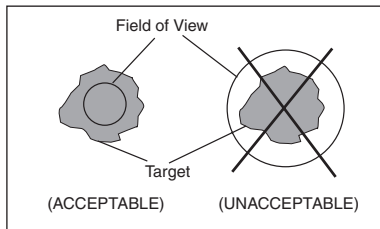
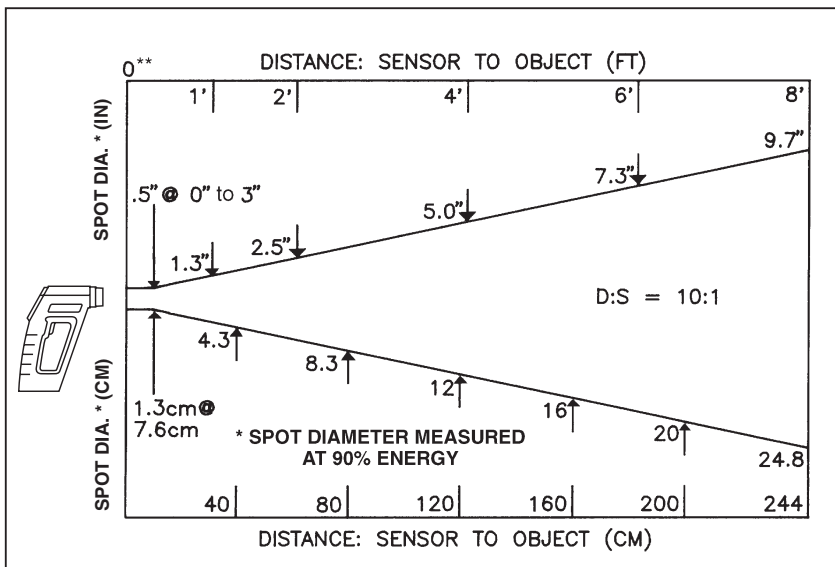

Figure 2-3. Field of View Positions
Figure 2-4. Field of View OS531, OS532, OS530L
2. The field of view of the thermometer should fall within the area of the target being measured. See Figure 2-3. Figures 2-4 through 2-6 show the field of view vs distance for the various thermometers.